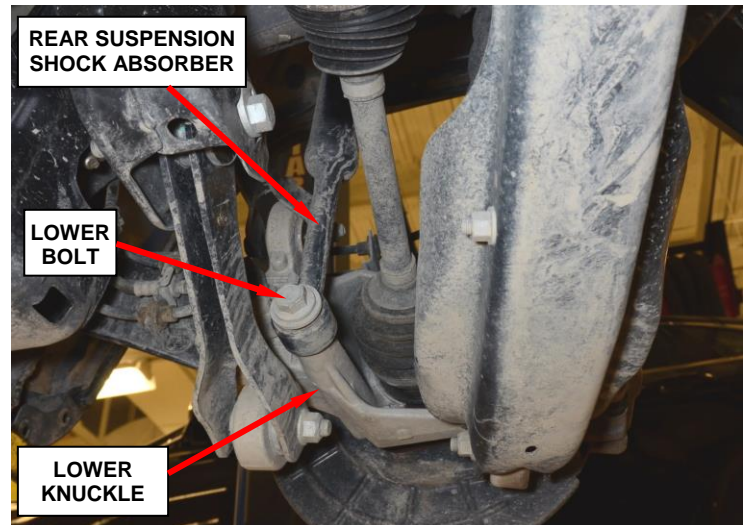

Figure 4 – Lower Shock Absorber Bolt
3. Remove and save the bolt securing the lower end of the rear suspension shock absorber assembly to the lower knuckle assembly (Figure 4).
11. Position the lower end of the shock absorber to the knuckle assembly (Figure 4).
12. Install the lower shock absorber retaining bolt and tighten to 139 ft. lbs. (185 N·m) (Figure 4).